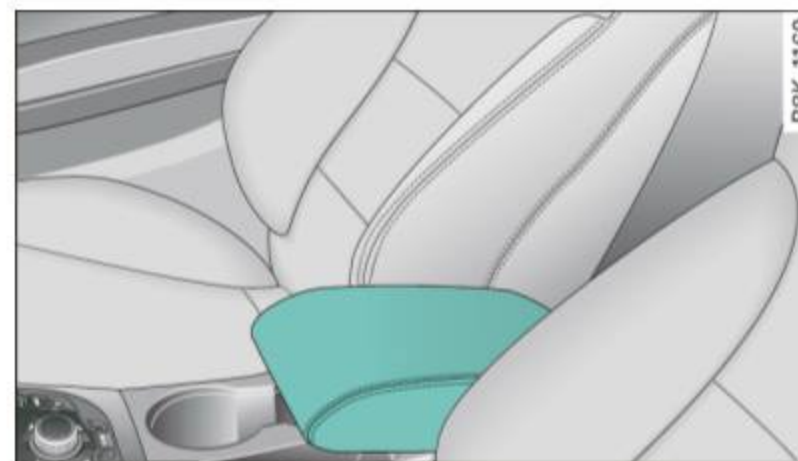

Fig. 77 Armrest between the driver's/front passenger's seats.
- To adjust the angle, raise the armrest from the starting position detent by detent ⇒ fig. 77.